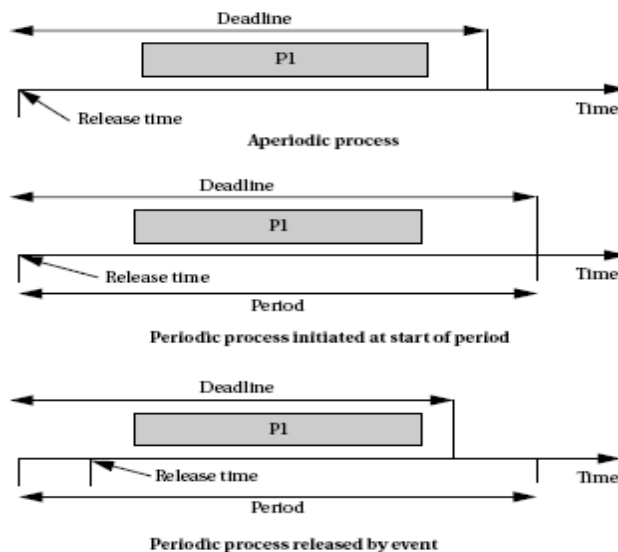

Figure 4.5 Example definitions of release times and deadlines.
- Figure 4.5 illustrates different ways in which two important requirements on processes can be defined: **release time** and **deadline**.